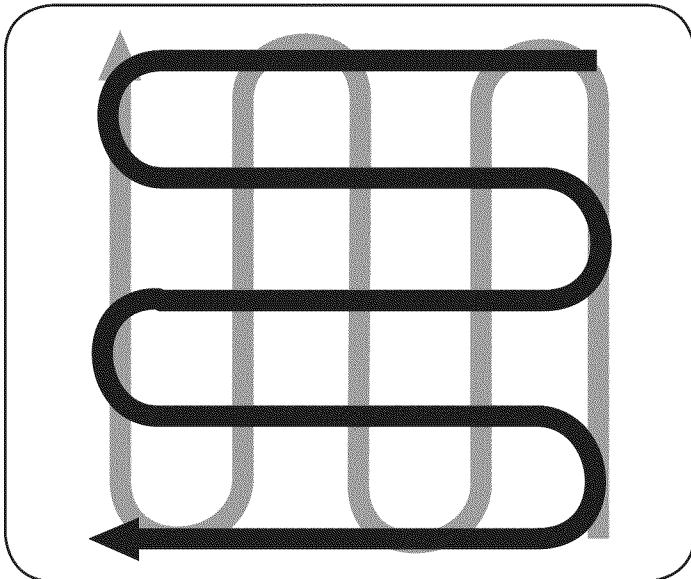

Figure 17
- When finished in one direction, make a second pass at a right angle, See Figure 17. Overlap each pass for the best results (in very hard ground, it may take three or four passes to thoroughly pulverize the soil.)